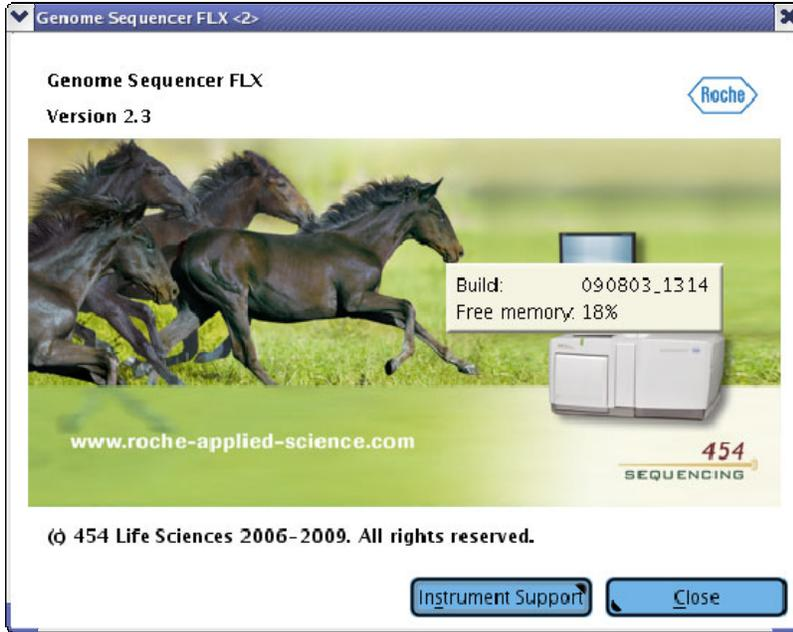

Figure 31: GS Sequencer 'About' dialog
- The 'About' button will display information about the currently installed version of the GS Sequencer application (see Figure 31).
If you are having problems with your instrument or with a sequencing Run data set, you can contact Roche Customer Support using the support feature found in the About dialog (Figure 31). Click 'About' and 'Instrument Support' to generate a support report.